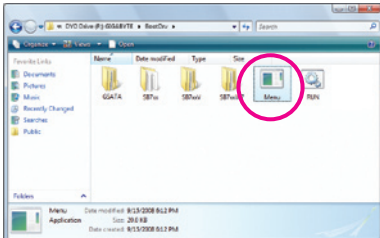
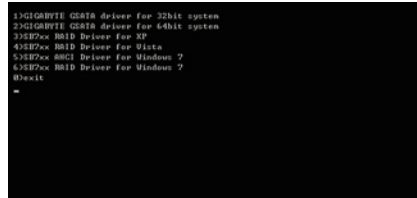

Figure 2
Figure 3
- 2: From your optical drive folder, double click the Menu.exe file in the BootDrv folder (Figure 2). A Command Prompt window will open similar to that in Figure 3.
- 3: Insert the blank formatted disk. Select the controller driver by pressing the corresponding letter from the menu and press <Enter>. For example, from the menu in Figure 3, to install Windows XP to the RAID/AHCI hard drives, select **3) SB7xx RAID Driver for XP**.